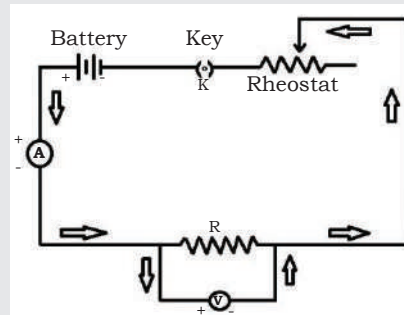

Fig. 1. Circuit diagram of Ohm's law
1. Using the DC circuit trainer, connect the circuit as shown in Fig.1.